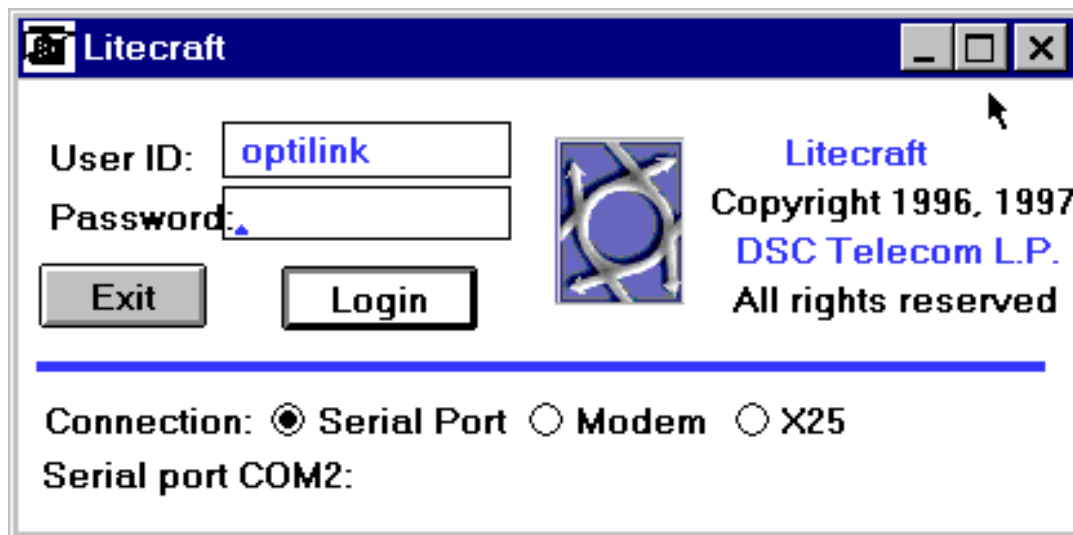
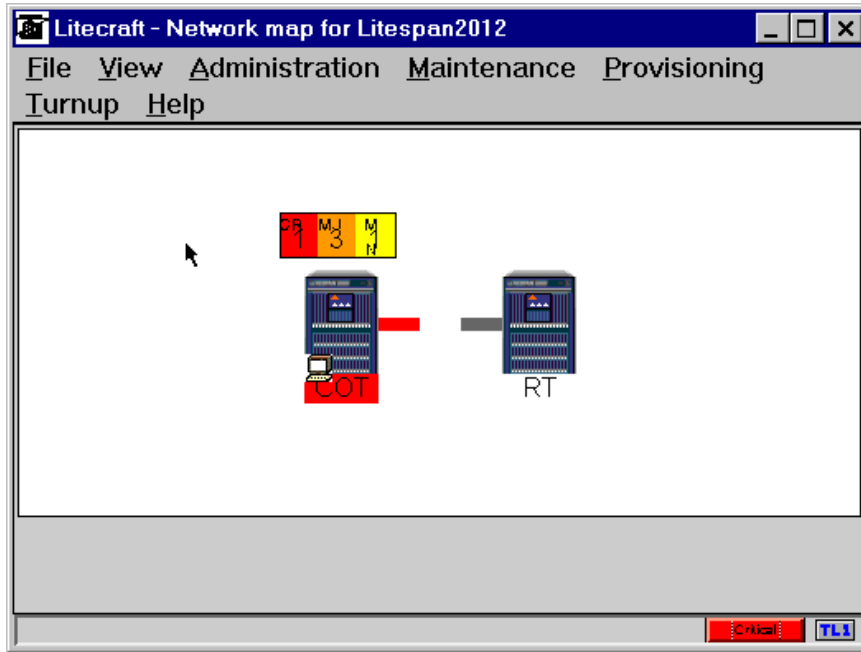

Figure 6. Litecraft Login Screen
Figure 7. Network Map Screen
- 1 At the Litecraft Login screen (Figure 6), log in by entering an appropriate user ID, password, and communication parameters. The Network Map screen appears after a successful login (Figure 7).